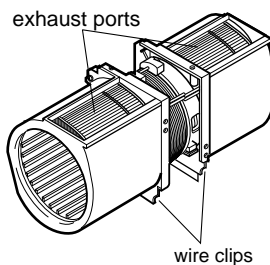
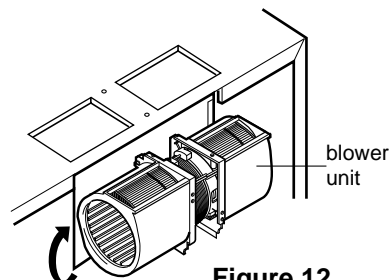

Figure 13
Figure 12
3. Rotate blower unit end over end. Rotate the unit 90° so that the exhaust ports face the upper of the unit. See Figure 12. Slip wires into clips at the bottom left hand corner of blower unit. See Figure 13.